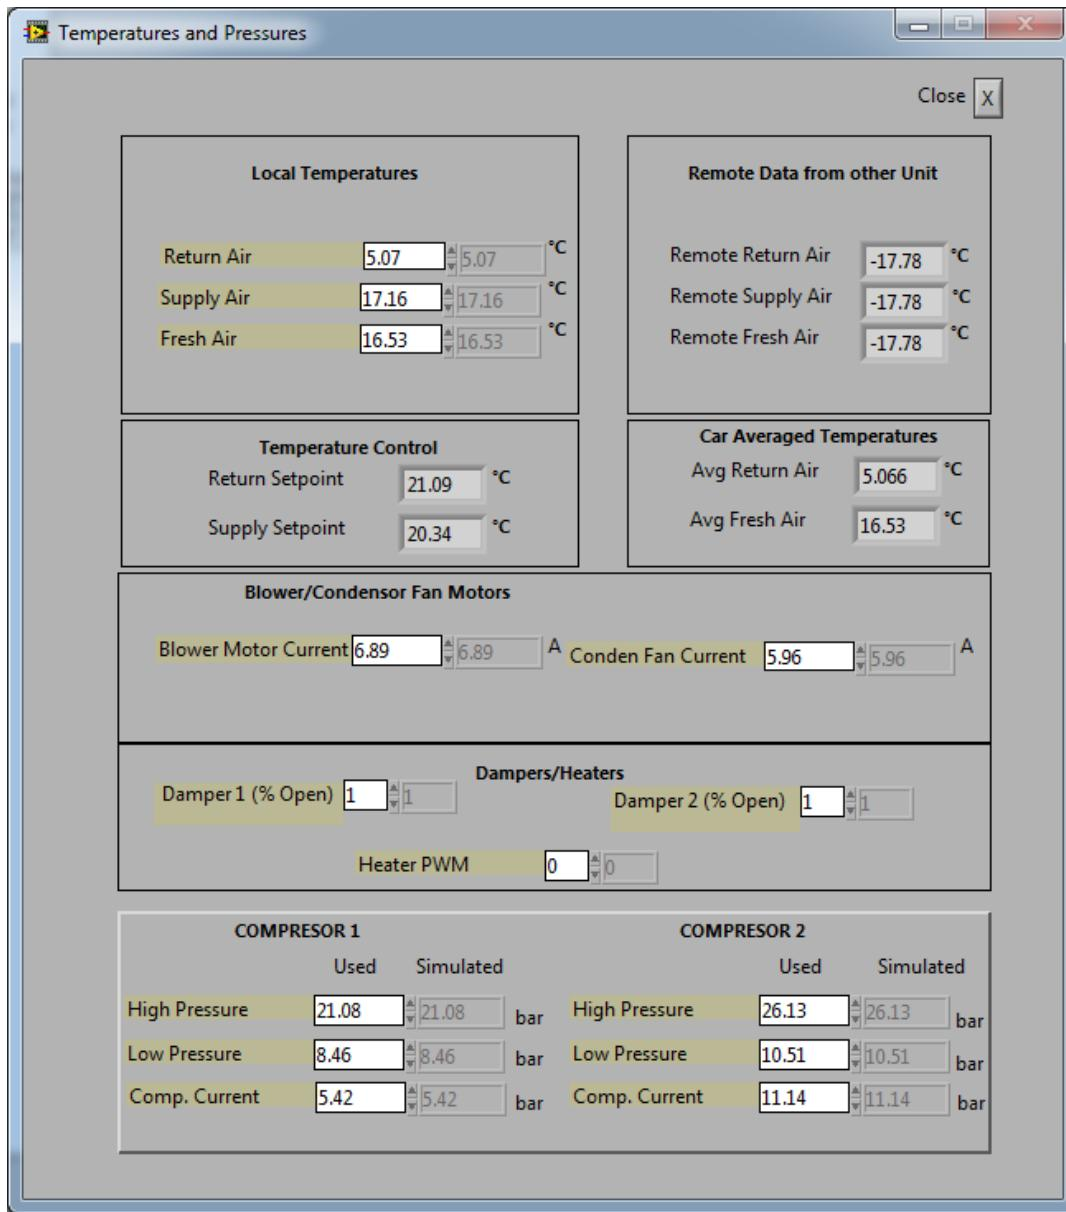

Figure 5-7: PTU, Temperatures and Pressures Window
2. Compare the digital thermometer value with the Fresh Air Sensor value on the PTU Temperatures and Pressures screen (Figure 5-7). The two temperature values should be within $\pm 1.8^{\circ}\text{F}$ of each other. Refer to paragraph 3.6 for PTU operating procedures.
2. Compare the digital thermometer value with the Return Air Sensor value on the PTU Temperatures and Pressures window (Figure 5-7). The two temperature values should be within $\pm 1.8^{\circ}\text{F}$ of each other. Refer to paragraph 3.6 for PTU operating procedures.
2. Compare the digital thermometer value with the Supply Air Sensor value on the PTU Temperatures and Pressures window (Figure 5-7). The two temperature values should be within $\pm 1.8^{\circ}\text{F}$ of each other. Refer to paragraph 3.6 for PTU operating procedures.